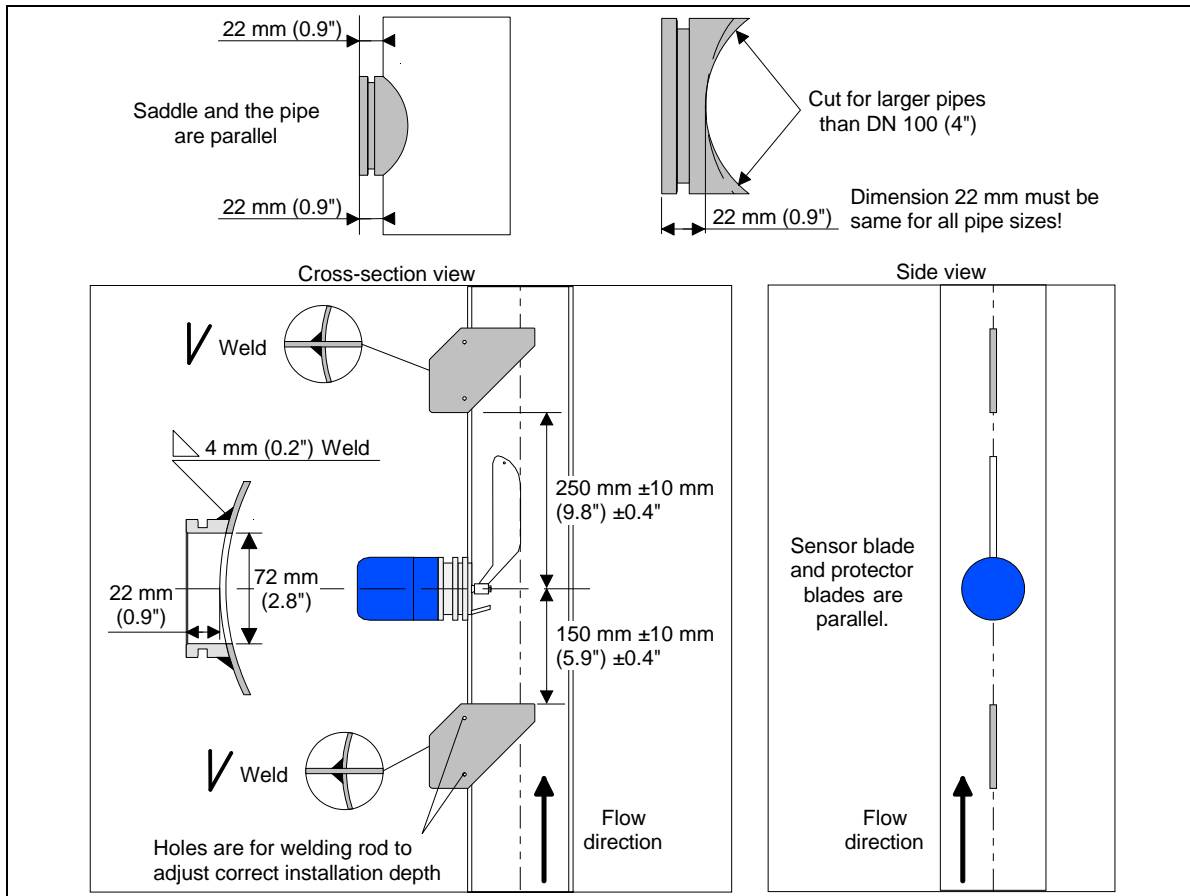

Figure 2.4. Standard blade ST installation. Mounting of the saddle and protector blades.
2. Cut a hole $\varnothing 72$ mm (2.8") in the pipe as shown in figure 2.4. To prevent fiber debris from collecting on the edge of the cut-out, ensure that the edges of the hole inside the pipe are ground smooth. Fiber and or debris collected at this point can interfere the measurement.
Blade transmitters need protector blades (included in delivery) before and after the sensor blade. This is necessary because during shut downs pulp may dry out and dry fiber plugs may form. When the pump is re-started damage to the sensor unit may occur when these plugs start moving in the line. The protector blades protects the sensor unit from mechanical damage from up or downstream flows that come from dewatered pulp, knots and other stream projectiles hitting the blade. The installation of the protector blades are shown in figure 2.4.